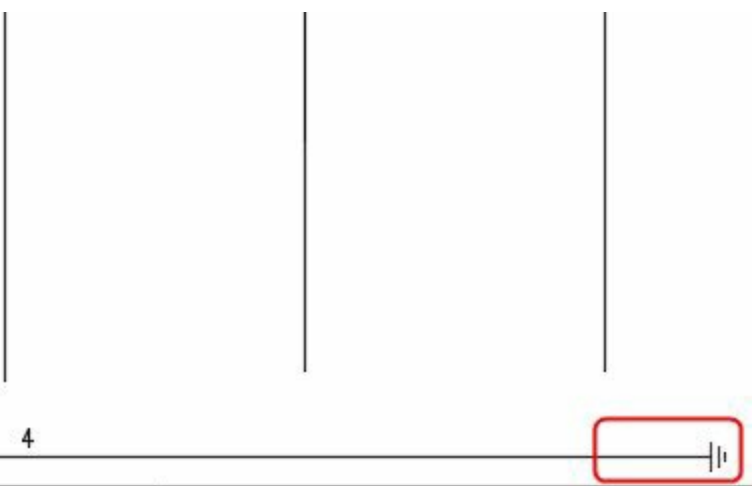

Figure-73. After placing ground symbol
- Click at the end of wire with 4 wire number; refer to Figure-73.